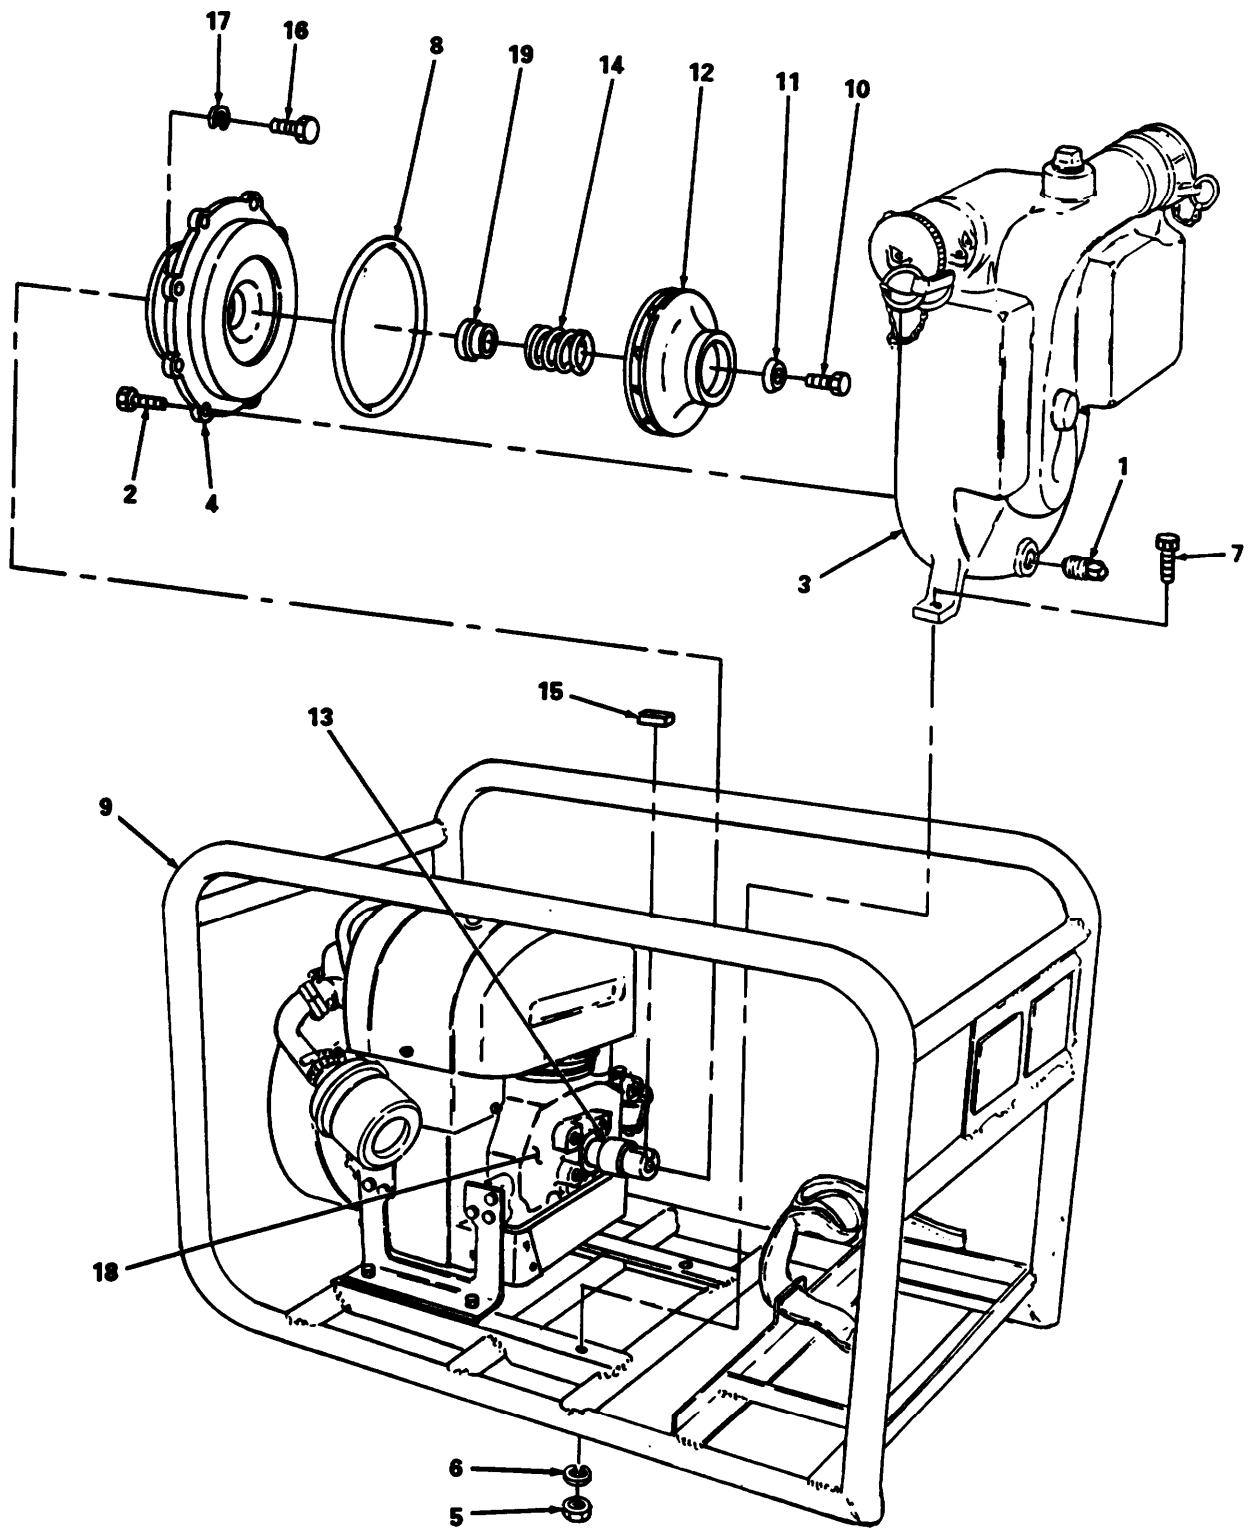

Figure 4-4. Pump Assembly, Removal.
a. Remove. (figure 4-4)
- (1) Remove pump drain plug (1) and drain fuel from pump into suitable container.
- (2) Remove eight bolts (2) securing the pump housing (3) to the impeller housing (4).
- (3) Remove two nuts (5), two washers (6) and two bolts (7) securing the pump housing (3) to the frame (9).
- (4) Pull the pump housing (3) and O-ring (8) from the frame (9).
- (5) Remove bolt (10) and washer (11) securing impeller (12) on pump shaft (13) and remove impeller (12), spring (14), and key (15). Unless corroded, the impeller will slip off the shaft without using force.
- (6) Remove four bolts (16) and lockwashers (17) securing impeller housing (4) to gasoline engine (18).
- (7) Using puller remove impeller housing (5) and seal (19).